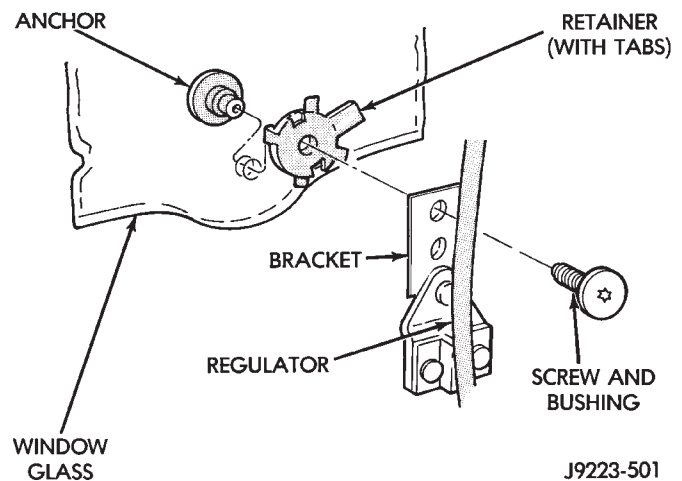

Fig. 43 Regulator-To-Glass Screw Removal/Installation
- (4) Lower the window to provide access to the regulator-to-glass screw.
- (5) Remove the regulator-to-glass screw, bushing and retainer from the regulator (Fig. 43).
- (3) Remove the glass channel bottom screw.
- (4) Remove the regulator-to-window glass screw, bushing and retainer (Fig. 43).
- (5) Lift the glass upward and out of the door.